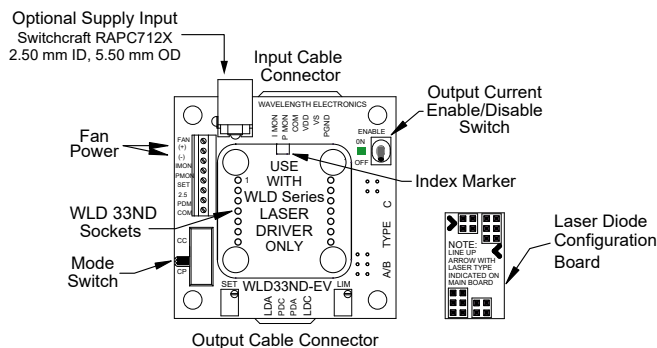

Figure 13. WLD33ND-EV Top View
Figure 13 gives a top view of the WLD33ND-EV Evaluation Board.
Prior to applying power to the board, use the Mode Switch to choose either CC or CP (**Figure 13**). Ensure that the switch is completely rockered to the chosen end.
B) Configure the evaluation board for Constant Current (CC) operation using the Mode Switch.
C) Turn the SET trimpot at least twelve turns counter-clockwise (OFF). Adjust the LIM trimpot at least twelve turns clockwise (ON).
D) Apply power to the WLD33ND-EV and enable the output current by switching the enable switch to the "ON" position. See **Figure 13** to locate the switch.
E) Adjust the SET trimpot clockwise until the voltmeter displays V_{LIMIT} calculated in **Equation (14)**. Next, turn the LIM trimpot counter-clockwise until the displayed voltage just begins to decrease. Finally, turn the SET trimpot fully counter-clockwise to zero the output current.